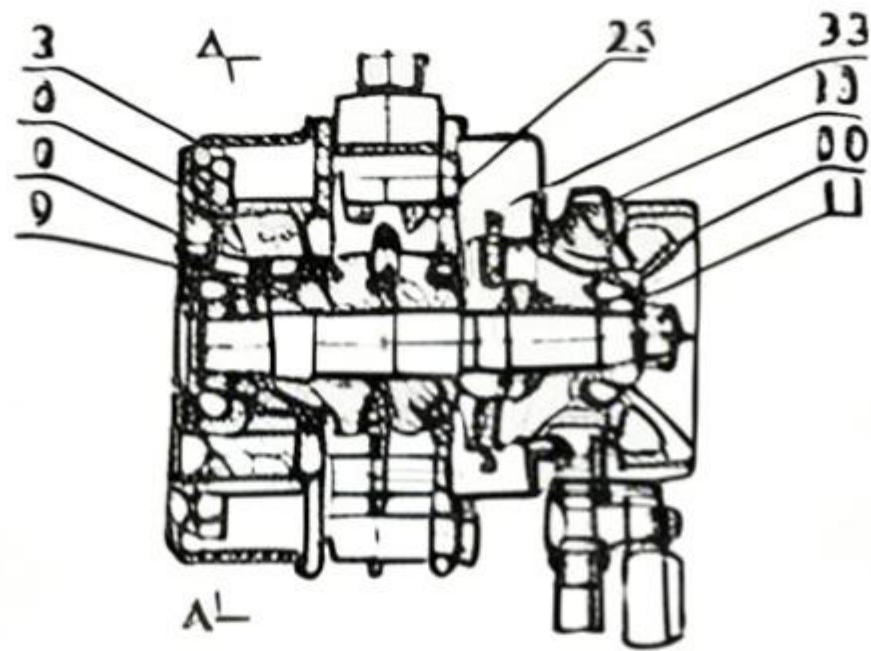

Fig. 1
SET THE SELECTOR LEVER TO THE "F" POSITION AND TURN RIGHT THE LEVER HANDLE TO PRESS THE FRICTION PLATES (20) AND RATCHET DISK (16) TIGHTLY AGAINST THE BRAKE SEAT (55). THIS CAUSING THESE PARTS TO ROTATE IN UNISON, THEN DRIVE THE DRIVING SHAFT (11), DRIVEN GEAR (2), PINNION SET (6), SPINED GEAR (3), LOAD CHAIN AND THE LEVER HANDLE TO LIFT THE LOAD SMOOTHLY (SEE FIG. 1).